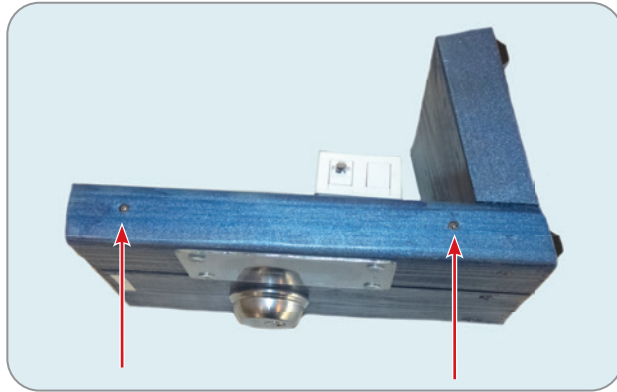

Figure A-5: Two 6" screws securing the 2"×4" board to the 2"×6" board on a completed stand
6. Realign the 2"×4" and the 2"×6" pieces and confirm that the lock still functions. If so, drill two pilot holes through the edge of the 2"×4", one near the top and one near the bottom, and then use 6" screws to connect the two boards (see Figure A-5 for an example from a completed stand).